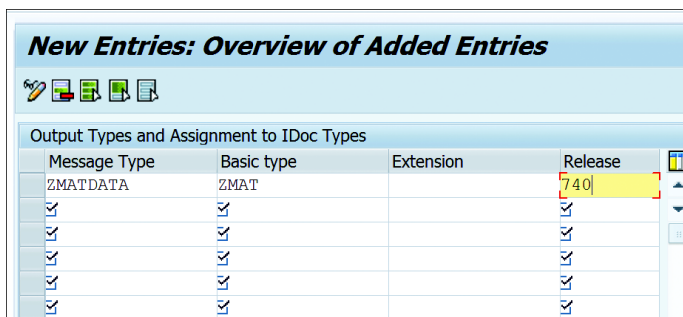

Figure 19.44 Assigning Basic Type to Message Type
1. On the initial screen of Transaction WE82, enter change mode and click the NEW ENTRIES button. Maintain the message type and basic type details, as shown in Figure 19.44.